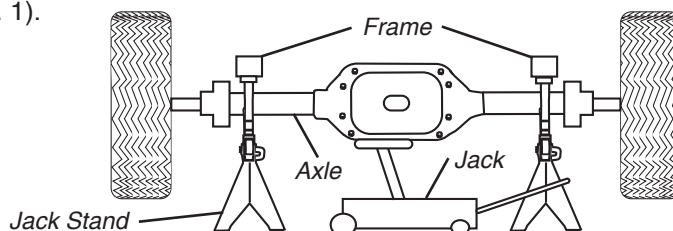

fig. 1
1. Jack up the rear of the vehicle or raise on a hoist. Support the frame with safety stands (fig. 1).